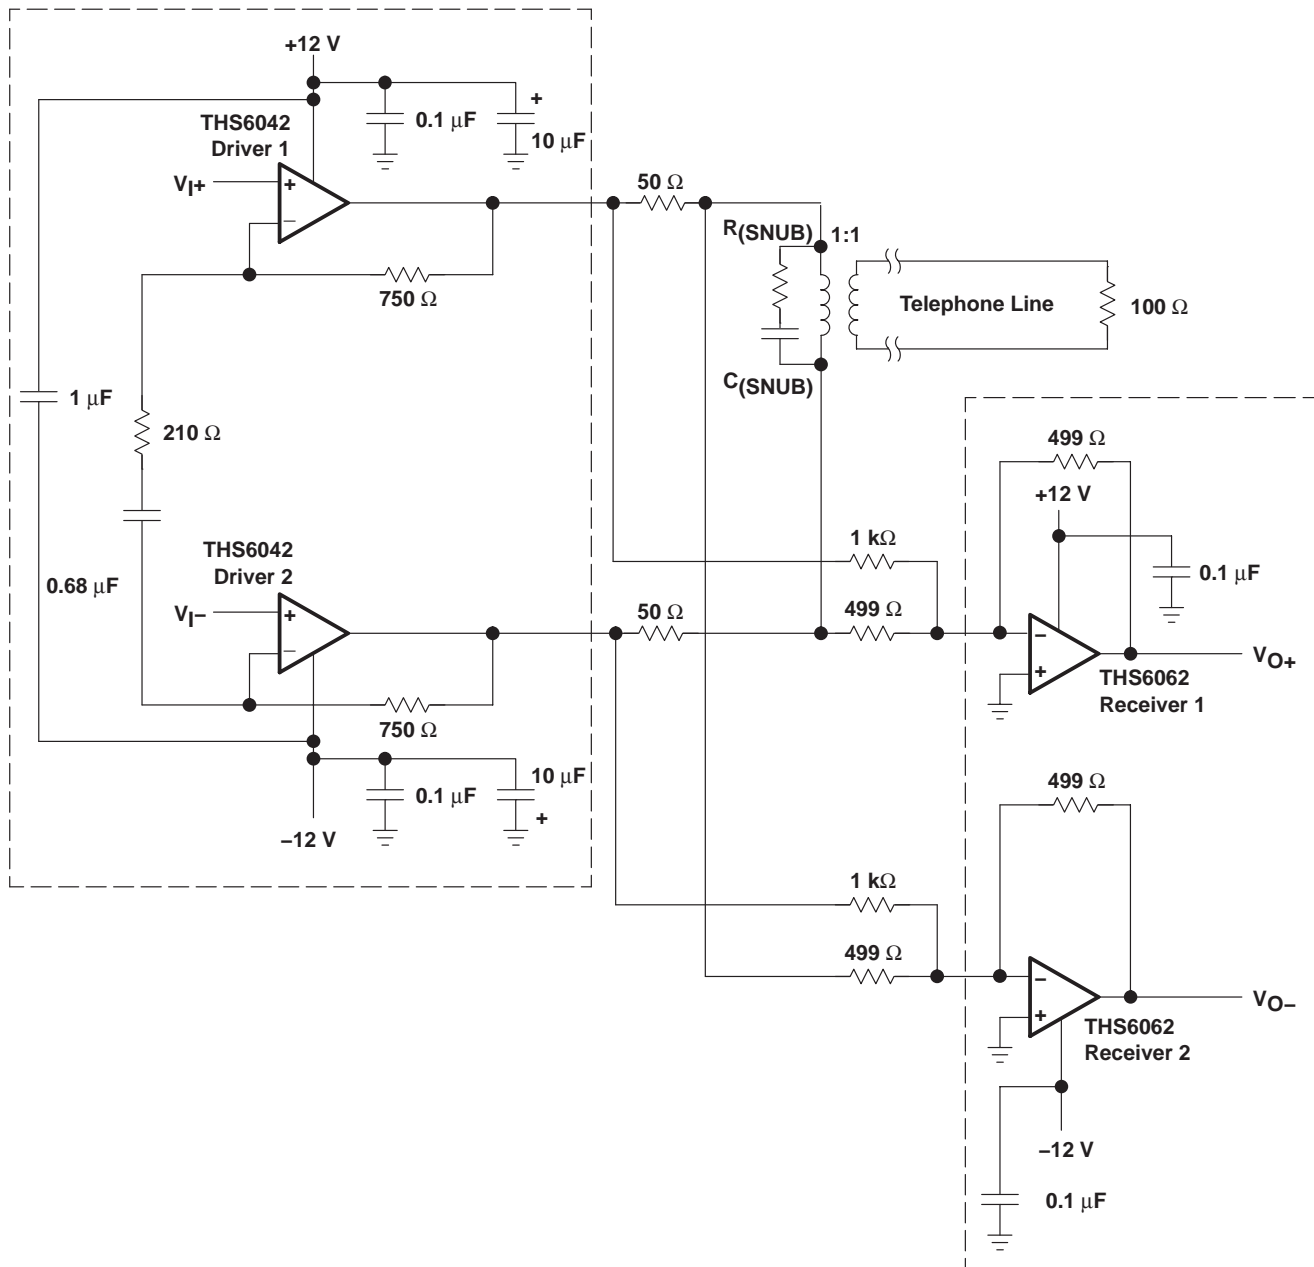

Figure 37. THS6042 ADSL Application With 1:1 Transformer Ratio
The THS6042/3 were primarily designed as line drivers for ADSL (asymmetrical digital subscriber line). The driver output stage has been sized to provide full ADSL power levels of 13 dBm onto the telephone lines. Although actual driver output peak voltages and currents vary with each particular ADSL application, the THS6042/3 are specified for a minimum full output current of 230 mA at  $\pm 6$  V and 300 mA at the full output voltage of  $\pm 12$  V. This performance meets the demanding needs of ADSL at the client side end of the telephone line. A typical ADSL schematic is shown in Figure 37.
- Differential power supply decoupling – The THS6042/3 were designed for driving low-impedance differential signals. The 50- $\Omega$  load which each amplifier drives causes large amounts of currents to flow from amplifier to amplifier. Power supply decoupling for differential current signals must be accounted for to ensure low distortion of the THS6042/3. By simply connecting a 0.1- $\mu$ F to 1- $\mu$ F ceramic capacitor from the +VCC pin to the -VCC pin, differential current loops will be minimized (see Figure 37). This will help keep the THS6042/3 operating at peak performance.